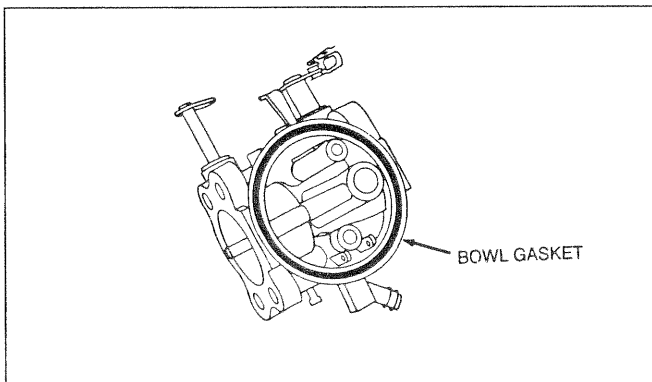

Figure 132. Bowl Gasket Installation
- Install carburetor bowl gasket in carburetor body groove (Figure 132). Make sure the gasket does not twist or kink.